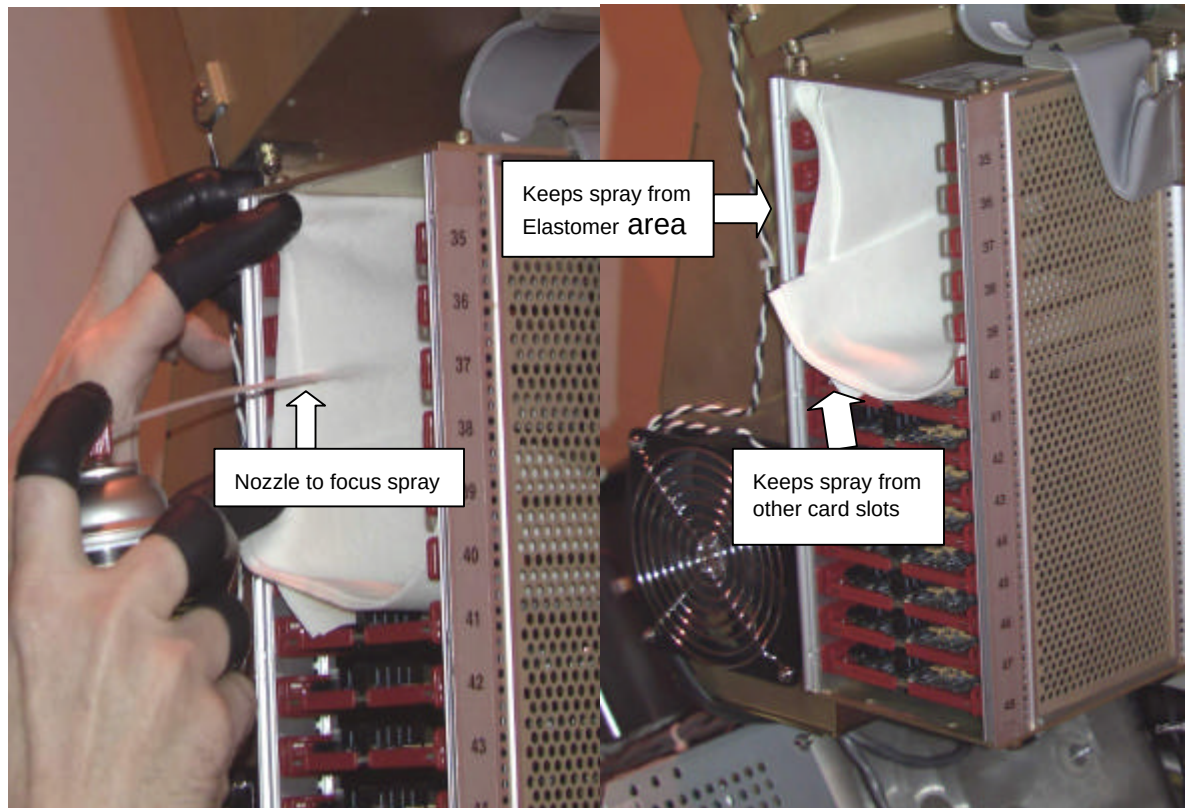

Figure 2 - Proper placement of "lint-free" towels
10. Position "lint free" towels between the chassis and the flex housings. This will prevent any excess cleaner entering any parts not needing cleaning. See Figure 2.